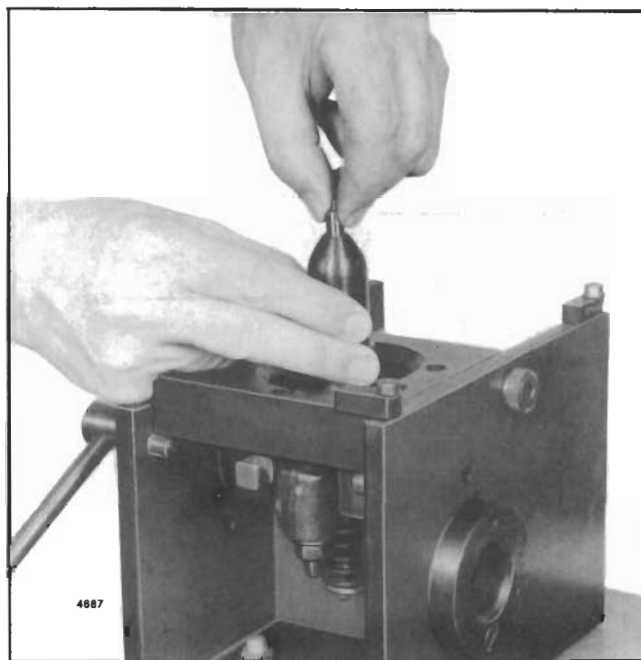

Fig. 39 - Tightening Injector Nut by Hand
7. Lubricate the threads in the injector nut and carefully thread the nut on the injector body by hand. Rotate the spray tip between your thumb and first finger while threading the nut on the injector body (Fig. 39). Tighten the nut as tight as possible by hand. At this point there should be sufficient force on the spray tip to make it impossible to turn with your fingers.